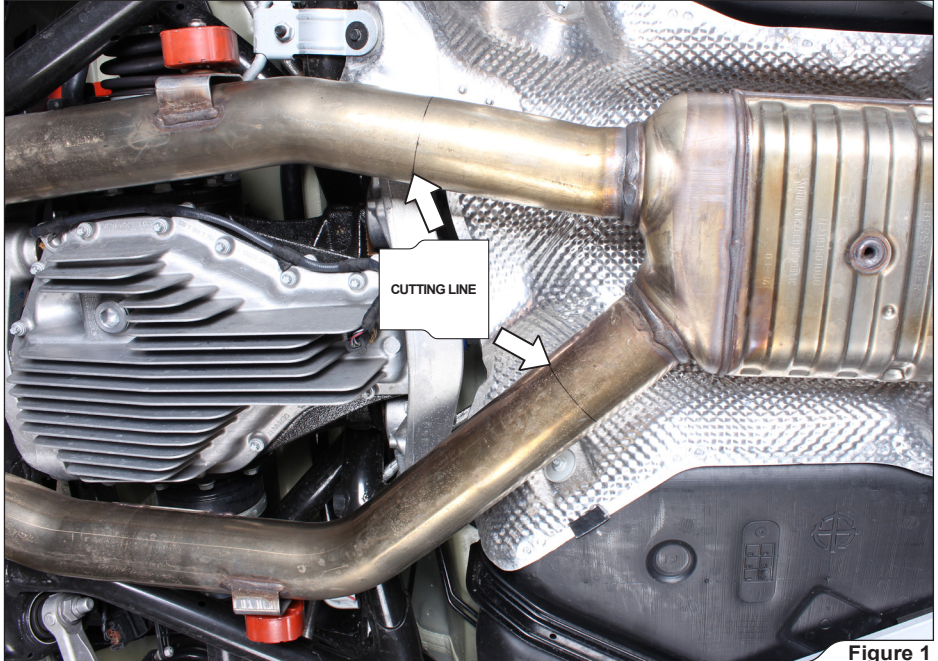

Figure 1
1. Mark the stock muffler's inlet pipes exactly as shown. Carefully cut the pipes at the marked cutting lines, using pipe cutting tool or equivalent (**Figure 1, 2, 3**).